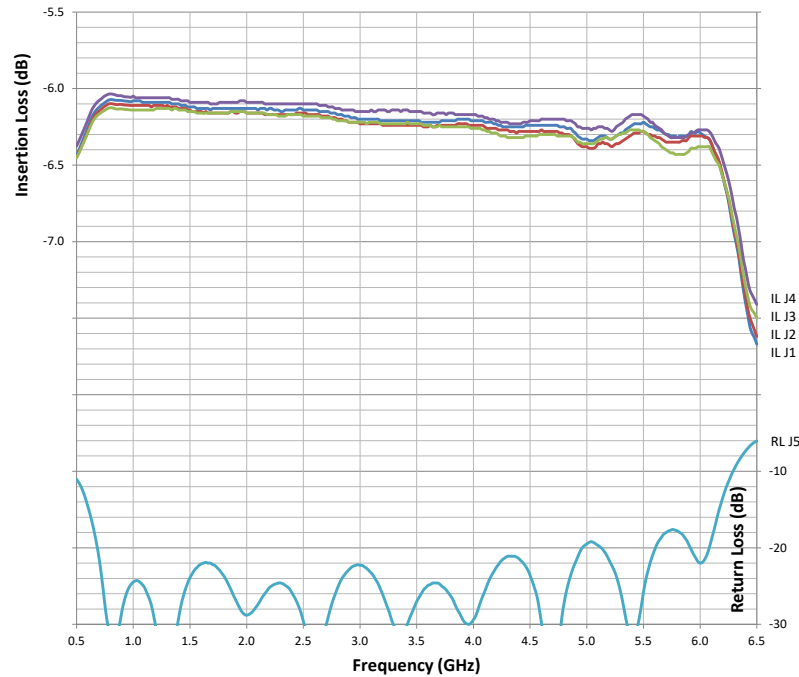

Figure 4-5. Typical 4-Way Splitter Insertion Loss and Return Loss
- A typical Four-Way Splitter insertion loss is shown in Figure 4-5. The unused ports must be terminated when checking the insertion loss. Typical combined port return loss is shown in Figure 4-5.